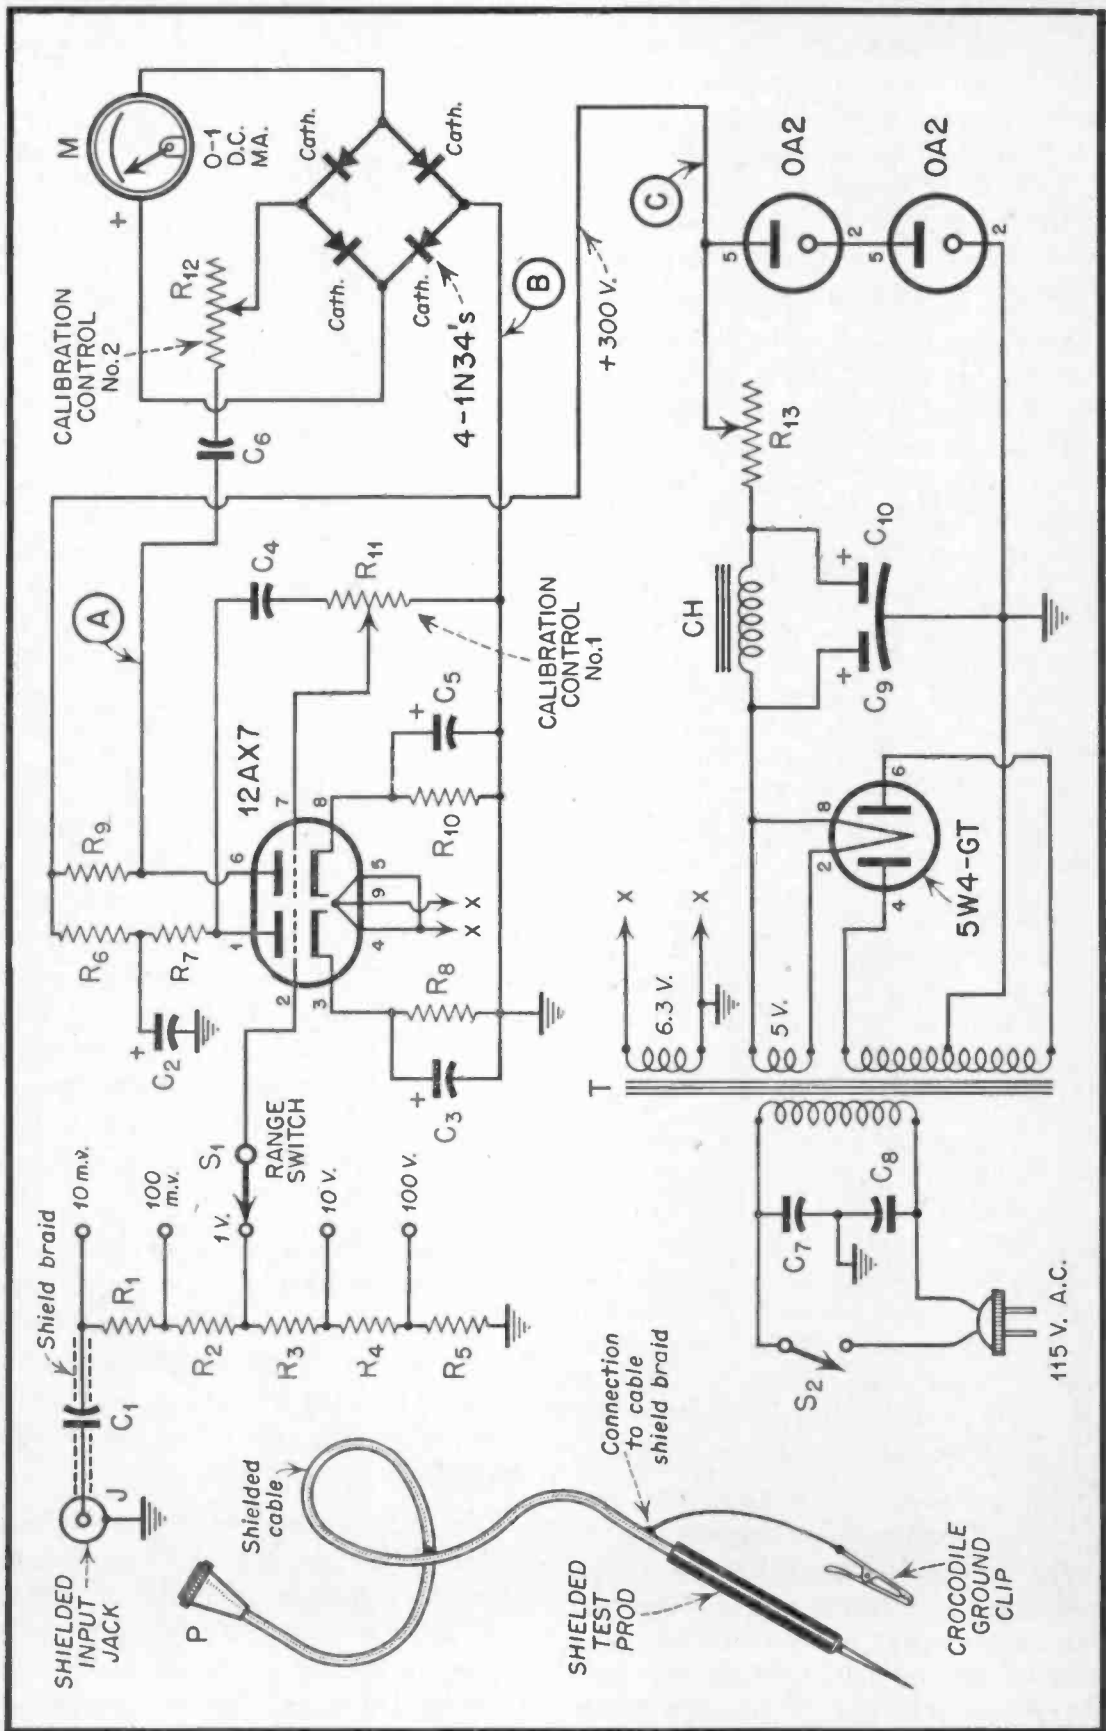

Fig. 2. Complete circuit of the meter.
7. Use only a shielded test lead for delivering the input signal voltage to the instrument. This lead must be terminated by a shielded plug, as shown in Figure 2.
Resistors R_1 to R_5 in the input voltage divider must be chosen to have the exact values given in Figure 2. Note that resistors R_1 , R_2 , and R_4 must be made up by connecting two specified resistors in series, in each case. The resistors used in this voltage divider provide potentiometer action. For this reason, their values must bear a definite relationship to each other. The resistors therefore can deviate from the values given in Figure 2, provided *all* other resistors in the string deviate by the same percentage and in the same direction.
1. Referring to the circuit diagram, Figure 2, unsolder temporarily the d. c. output lead at Point C from terminal 5 of the top 0A2 tube.